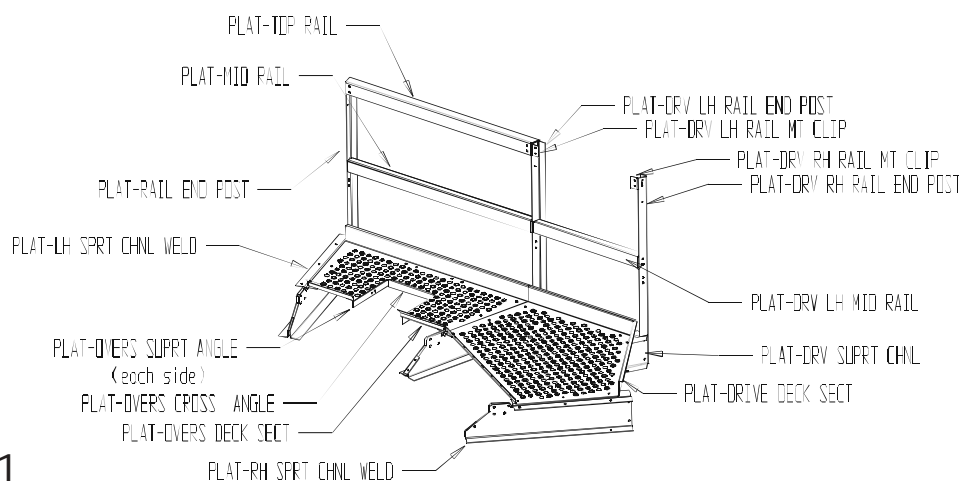

Fig. 8-1
2. **Review the layout of the platform** with respect to the Drive(s), Gate Drive and Overs Discharge and identify the differences in the related supports, deck panels and handrail components. (See Fig. 8-1)
8. Locate the **PLAT-RAIL END POSTs** and **PLAT-RAIL MT CLIPs**. These parts are universal for the regular deck sections. Using the 3/8" x 1-1/4" Assembly Bolts and Flanged Nuts, install a pair of End Posts between the Support Channels with and End Clip on each side of the top two holes. **Tighten the Mount Clips now.** (See Fig. 8-1)